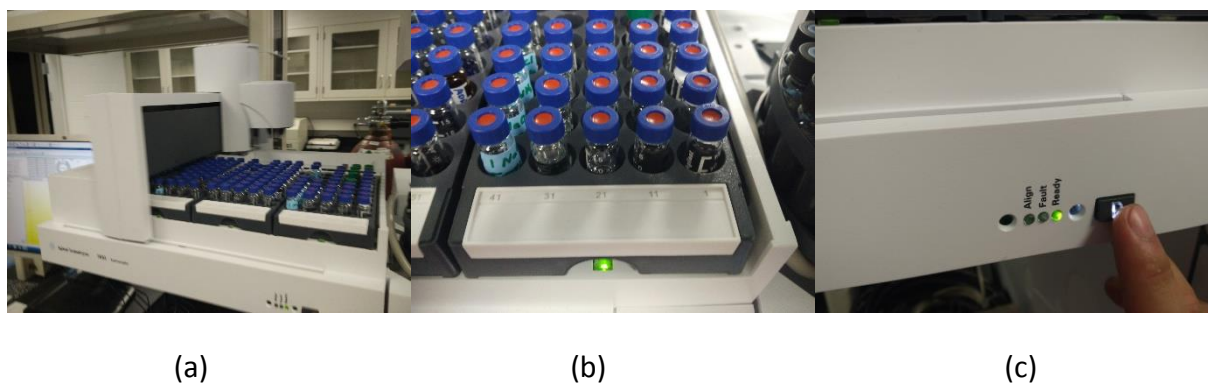

Figure 2 (a) Auto-sampler tray; (b) Sample number; (c) Button “P”
- Push the button “P” (parking) to move the auto-sampler arm to the left (Fig. 2-c).
- Put your samples in the auto-sampler tray and record the sample number (Fig 2-b).